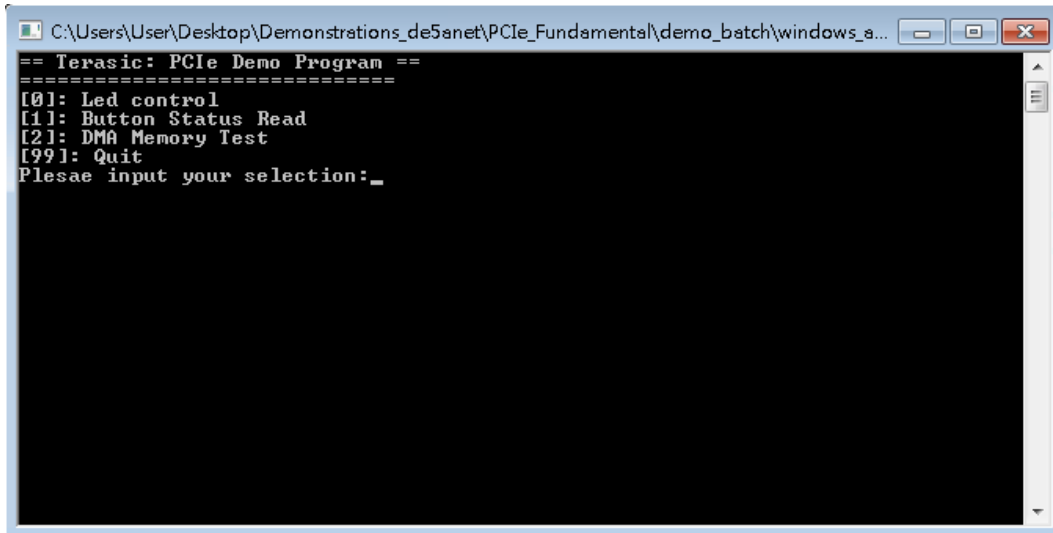

Figure 7-11 Screenshot of Program Menu
6. Goto windows_app folder, execute PCIE_FUNDAMENTAL.exe. A menu will appear as shown in **Figure 7-11**.